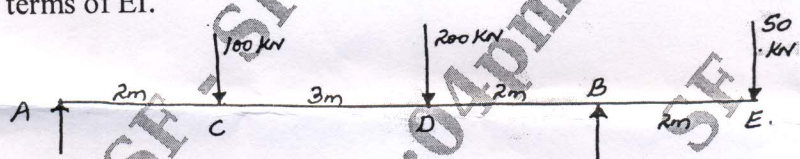

Fig.Q.10(b)
- b. Determine the slopes at A and B, deflections at C, D and E in the beam shown in Fig.Q.10(b) in terms of EI. (12 Marks)